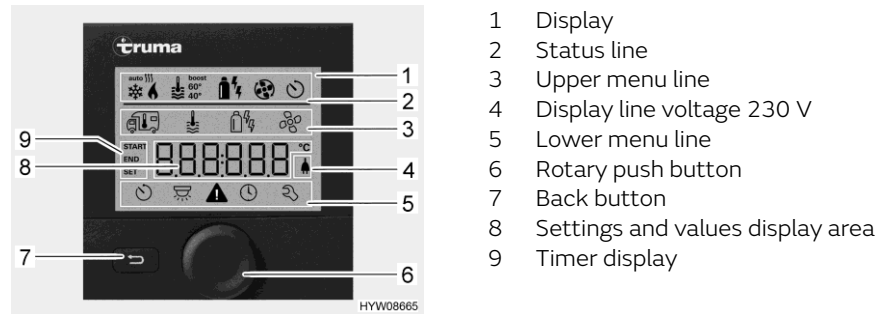
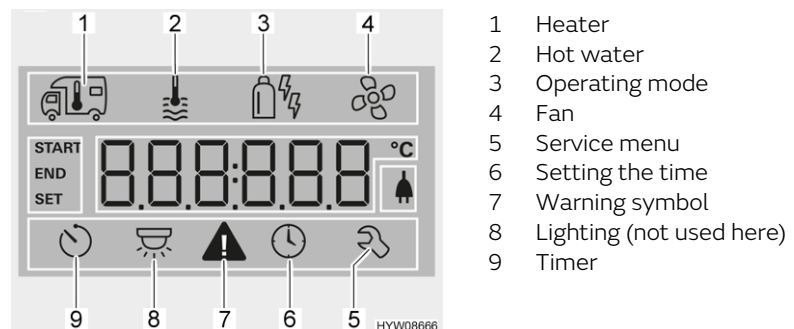

Fig. 73 Operating unit with displays
Fig. 74 Display (operating unit)
- Status line (Fig. 73,2)
- Upper menu line (Fig. 73,3)
- Display area (Fig. 73,8)
- Lower menu line (Fig. 73,5)
- Press and hold the rotary push button (Fig. 73,6) for approx. 3 seconds. Both menu lines (Fig. 73,3 and Fig. 73,5) are displayed. The first symbol flashes.
- Turn rotary push button (Fig. 73,6) until the required menu symbol flashes.
- Press rotary push button to save the value set. If you do not wish to change the value originally set: Press back button (Fig. 73,7).
- Turn rotary push button (Fig. 73,6) until the heater menu symbol (Fig. 74,1) flashes.
- Press rotary push button to save the value set. The symbol in the status line (Fig. 73,2) flashes until the room temperature set is reached. If you do not wish to change the value originally set: Press back button (Fig. 73,7).
- Turn rotary push button (Fig. 73,6) until the hot water menu symbol (Fig. 74,2) flashes.
- Press rotary push button to save the value set. The symbol in the status line (Fig. 73,2) flashes until the hot water temperature set is reached. If you do not wish to change the value originally set: Press back button (Fig. 73,7).
- Turn rotary push button (Fig. 73,6) until the menu symbol operating mode (Fig. 74,3) flashes.
- Press the rotary push button to save the set operating mode. To revert to the original setting: Press back button (Fig. 73,7).
- Turn rotary push button (Fig. 73,6) until the fan menu symbol (Fig. 74,4) flashes.
- Turn rotary push button (Fig. 73,6) until the timer menu symbol (Fig. 74,9) flashes.
- Press rotary push button. The timer is activated. The timer symbol (Fig. 74,9) flashes when the timer is programmed and active.
Fault display The warning symbol (Fig. 74,7) flashes in the event of a warning. The heater continues to operate. In the event of only a temporary fault, the warning symbol goes out automatically.